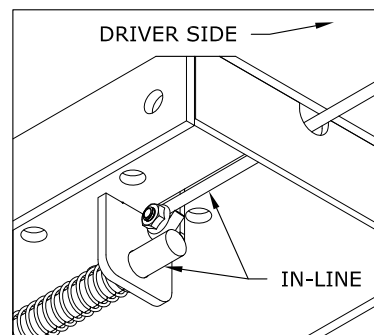

FIGURE F1: Center Section
1. Install the latch pin release handle by inserting it through the slot in the end of the center section on the driver side of the truck. Align the handle eyelet with the square hole in the latch pin so the handle is in line with the latch as shown in figure F1.